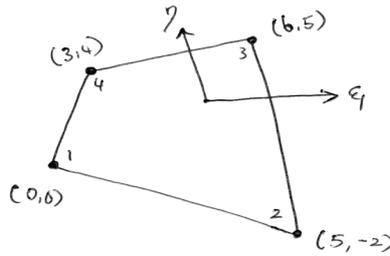

Figure-8
- b) For the element shown in figure-8. Determine the Jacobian matrix.